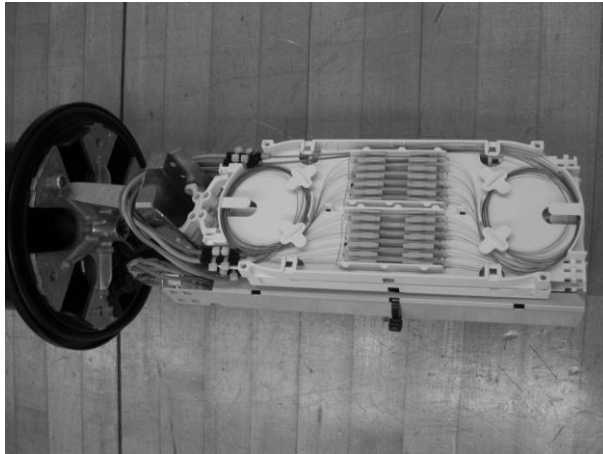

Figure 18 – Completed splice tray.
4.26 After splicing the fibers, return them to the splice tray, organize the fiber slack, and insert the heat shrink sleeve into the splice organizer (Figure 18). Once the splicing is complete, secure the hook and loop fastener straps around the splice trays and basket.